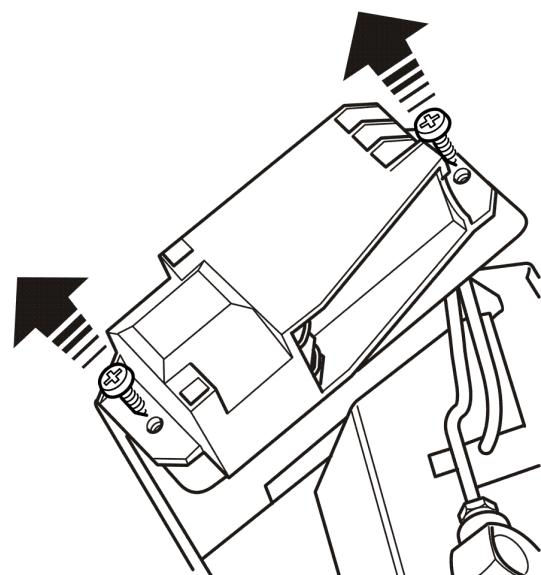

Figure 43. Removal of electronic ignition generator
5. Unscrew the two fixing screws that attach the generator unit to the support bracket. The igniter generator can now be removed (See figure 43).